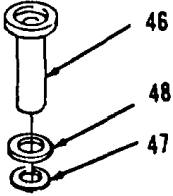

Figure 8-25.
7. Install shim (48) and washer (47) to stop (46, Figure 8-25).